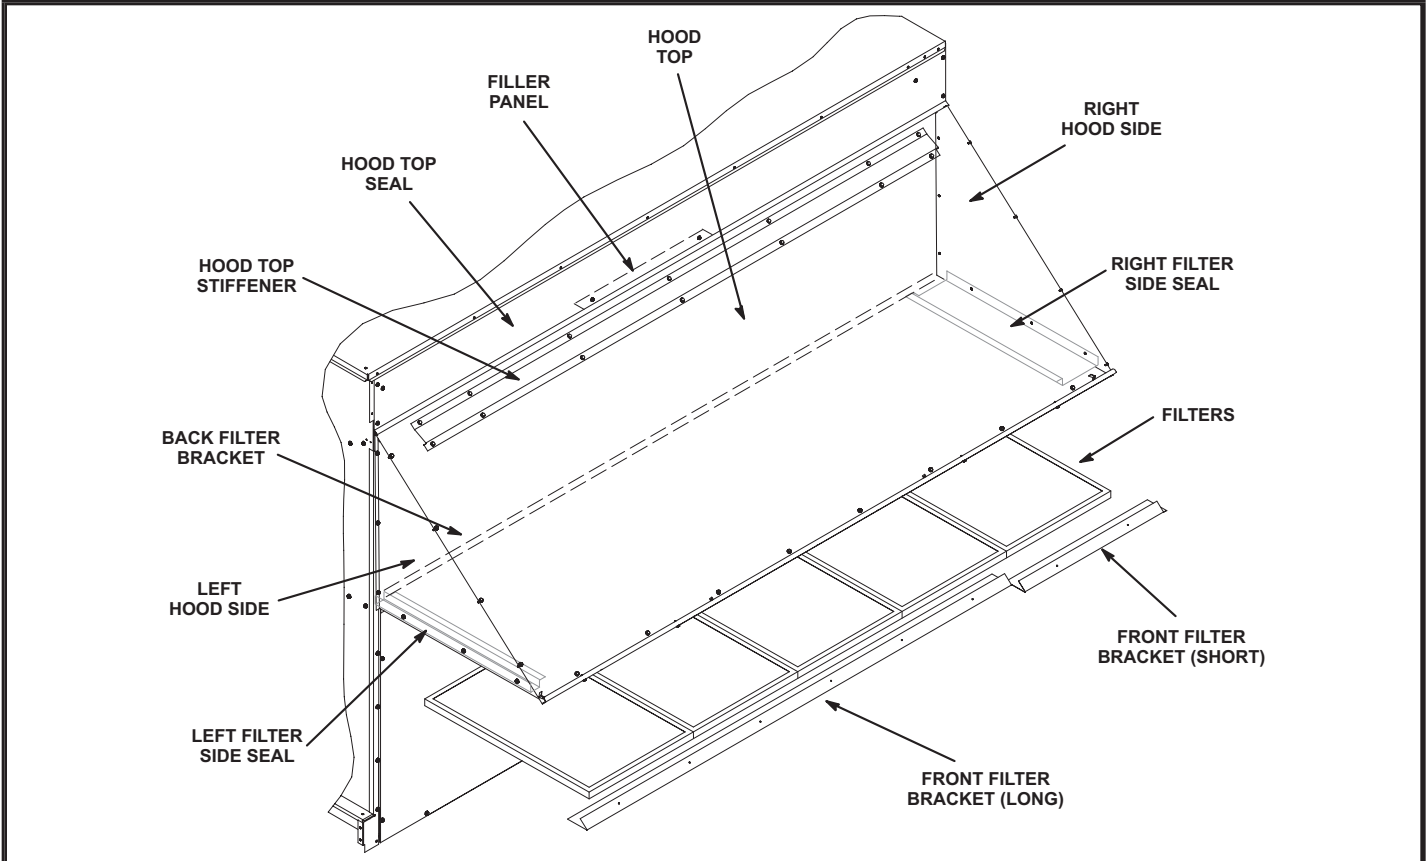
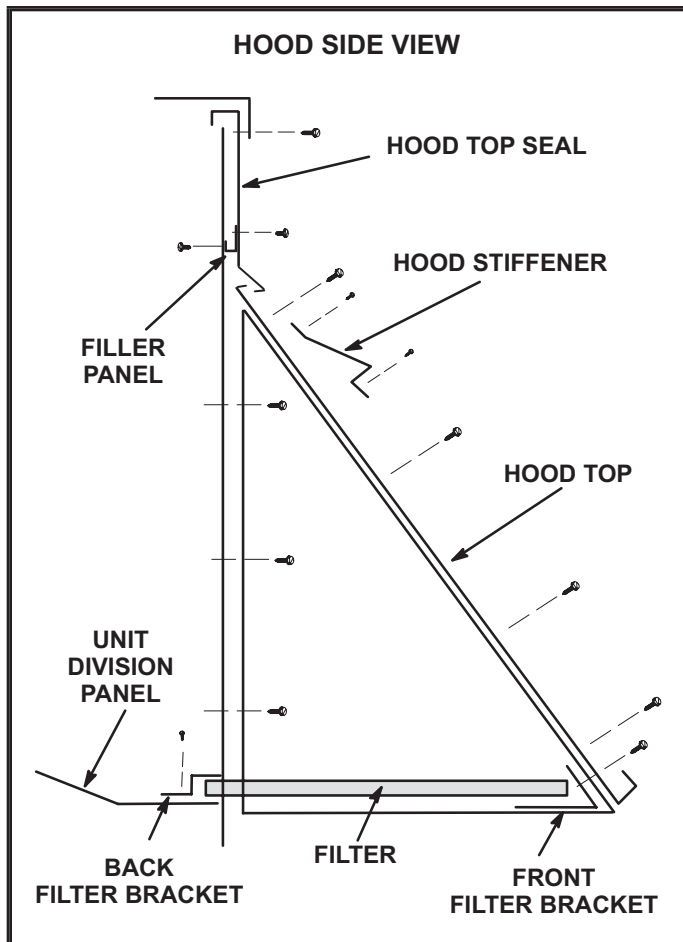

FIGURE 4
FIGURE 5
- 3 - Slide hood top seal under unit cabinet top; remove and retain screws securing top as needed. Secure top seal using retained screws. See FIGURE 4 and FIGURE 5.
- 6 - Align back filter bracket with holes in unit division panel. See FIGURE 5. Secure with sheet metal screws.
- 8 - Position hood top lip under top seal and slide hood assembly into place. See detail in FIGURE 5. Secure intake hood sides to unit using screws provided.
- 9 - Secure the longer front filter bracket flush with the left end of the hood top. Install all but last filter. See FIGURE 4 and FIGURE 7.